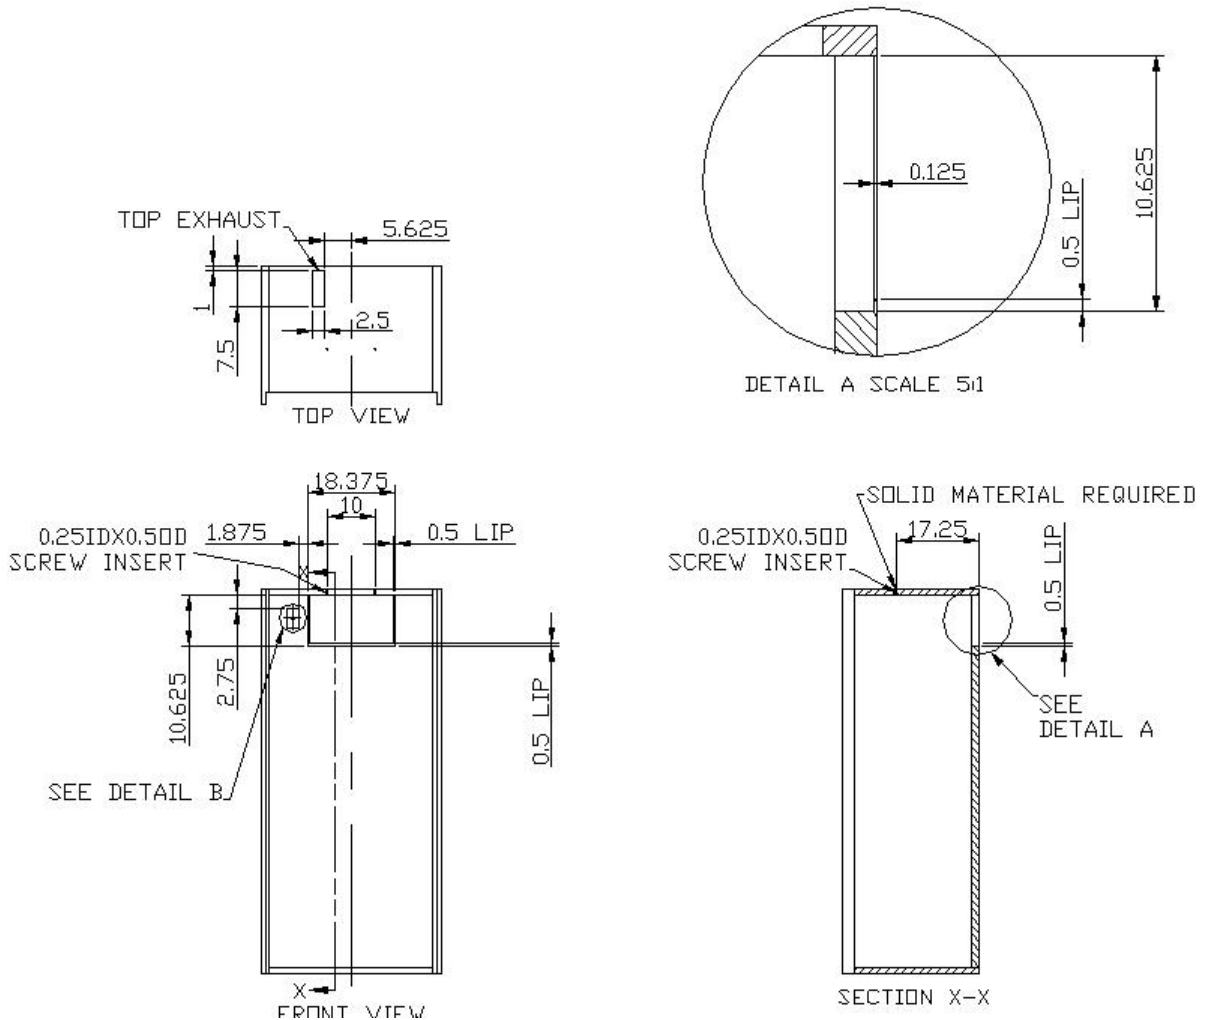

Fig. 2.1 CUTOUT AND HOLE DIMENSIONS
- Cut a rectangular inside opening at the rear of the cabinet with the 1/4" clearance inwards to the width and height of the cooling unit. By not going through, leave 1/2" lip inside at the wall to place the gaskets (see Fig. 2.1 & 2.2).
- If top exhaust installation, cut another rectangular opening at the top of the cabinet to the length and width of the top exhaust (see Fig. 2.1 & 2.3).